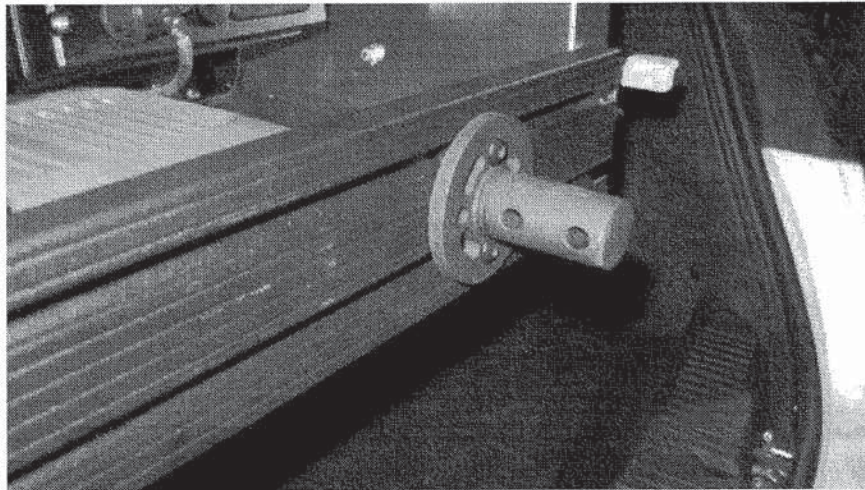

Figure 32 - Blac-Rac™ Model 1080M with Integral Lockset (T-Rail and Single Point Mounting Base)
- c. **Blac-Rac™ Model 1080M with Integral Lock:** This secure rack-type PCVSS is currently one of the three models approved for Police Interceptor Sedan marked MP vehicle and is illustrated at Figures 32 to 35 below:
- (1). Installation of this secure rack-type PCVSS requires the Blac-Rac™ Model 1080M Tactical Weapons Rack with Intergral Lock and Blac-Rac™ T-Rail System;
- (2). In this configuration the rack is supplied with an integral high security double-sided (Pagoda style) cam lock. The rack is normally delivered with two identical keys (*Note: This is a proprietary*